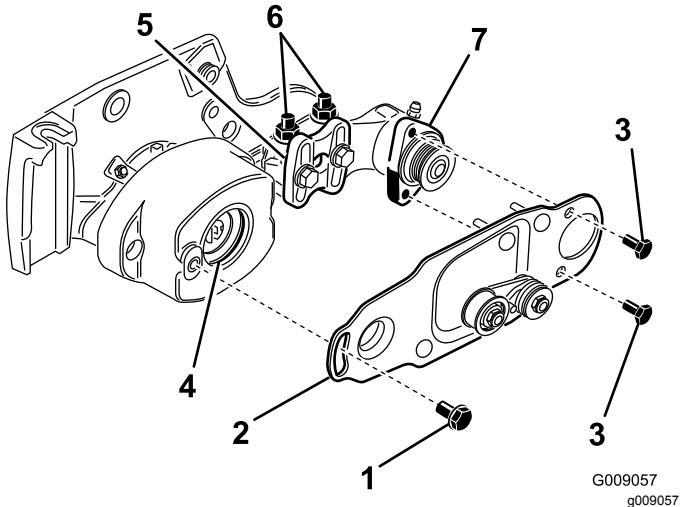

Figure 11
10. Apply a coating of grease to the inner diameter of the grommet in the bearing housing (Figure 11).
11. Loosen, but do not remove, the bolts securing the roller-brush-bearing housing to the roller-brush mounting bracket (Figure 11).
12. Install the roller-brush pivot plate (Figure 11).
13. Apply 243 Loctite (blue) to the 2 bolts (5/16 x 5/8 inch) and use them to mount the brush plate to the roller-brush-bearing housing (Figure 11).
- Loosen the 2 flange locknuts securing the roller-brush mounting bracket to the cutting unit side plate (Figure 11).
- Rotate the roller-brush-bearing housing until the brush plate is parallel to the cutting-unit side plate (Figure 11).
- Tighten the 2 flange locknuts securing the roller-brush mounting bracket to the cutting-unit side plate (Figure 11).
18. Apply 243 Loctite (blue) to the shoulder bolt (Figure 11). Secure the brush plate to the roller-brush housing with the shoulder bolt. (Figure 11).